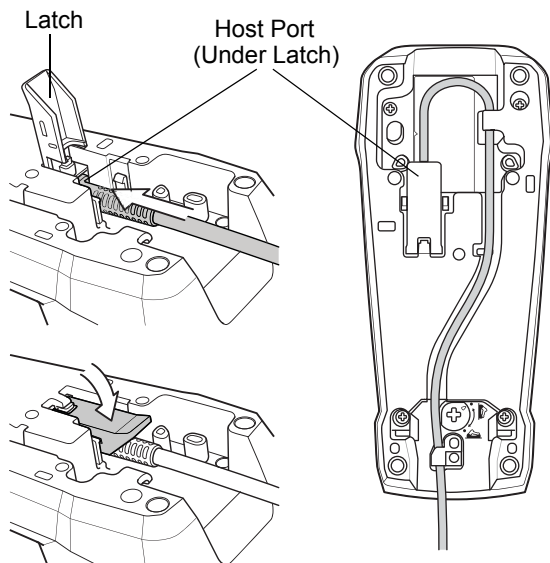

Figure 1-5 Connecting the Cables to the Cradle
3. Lift the latch and connect the interface cable into the cradle's host port and then close the latch. See Figure 1-5.